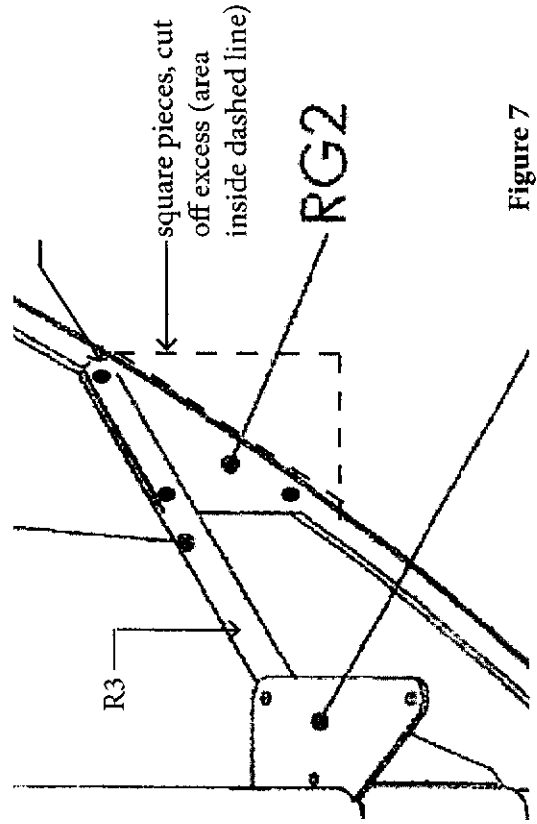

Figure 7
The gusset pieces starts out as two (2) pieces of sheet metal that are 3" square thin aluminum plates. The two plates lay on top of the 1/2" round rib (sandwiched on either side) across rudder bow and trim off excess and rivet in place with three (3) rivets. See Figure 7.